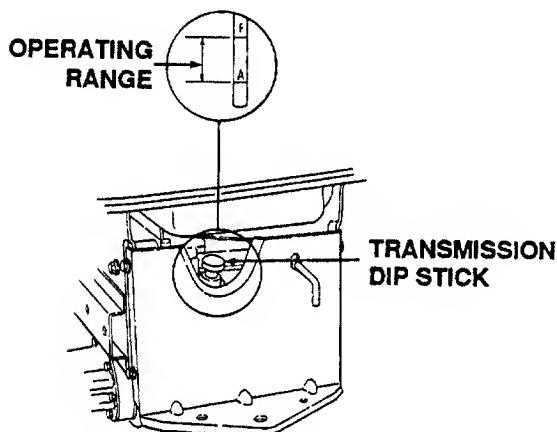

Figure 23
Check the oil level of the transmission case before each use to see that it is filled to the correct level. Before checking the transmission oil level, clean the area around the oil fill plug/dipstick to prevent debris from entering the transmission case. Always keep the oil level between the "FULL" and the "ADD" marks on the dipstick (See Figure 23). When checking the oil level, the dipstick must be withdrawn and wiped clean, then inserted all the way before being withdrawn for a true reading.
3. Remove the oil fill plug/dipstick from the oil fill port and SLOWLY pour oil into the oil fill port. Fill the transmission case until the oil level reaches the "FULL" mark on the dipstick (Refer to Figure 23).
- Remove the oil fill plug/dipstick from the oil fill port and SLOWLY pour oil into the oil fill port. Fill the transmission case until the oil level reaches the "FULL" mark on the dipstick (Refer to Figure 23).